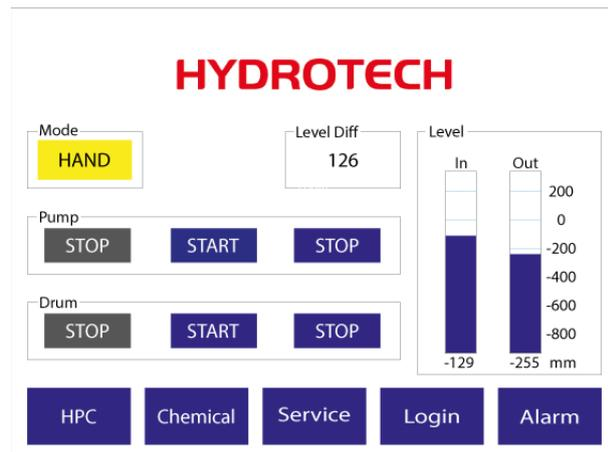

Figure 5.1 Main menu on electrical cabinet operator panel. (Indication of current backwash pressure is an option.)
4. Start the drum rotation on the operator panel main menu (see Figure 5.1 and Figure 5.2).
6. When the water level inside the filter tank/chamber exceeds the pump suction pipe (or, if a CRK or MTR pump has been installed, the pump), the pump must be started by pressing “Start” on the operator panel main menu (see Figure 5.1). NB Also read section 2.7.